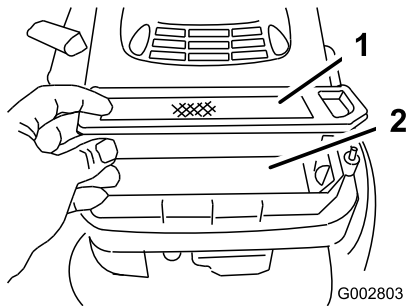

Figure 25
5. Remove the paper air filter and discard it (Figure 25).